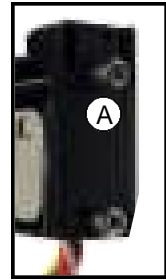

Figure 1
1. Remove 2 mounting screws from fader plate. (NOTE: The P&G fader is designed with floating mounting threads for precise mechanical centralizing of the fader. If you desire to keep your fader's current mounting position we suggest that you make 2 marks on both ends of the fader on the fader plate to indicate the P&G fader position.) See *Figure 1*.
2. Once fader is removed from unit, remove the two screws (A) from the end of the fader body where the wires exit the fader casing. Pull away the end block. Withdraw the dust cover (B). Taking great care, remove the slider assembly (C), ensuring that the wiper contacts (D) are not damaged as this will affect the operation of the fader. Clean the slider assembly by gently wiping the wiper contacts and slider bearings (E) using a tissue or cotton bud. If slider bearing are excessively worn, as indicated by excessive slider rocking then contact Stanton for replacement.
3. Remove the single upper screw on the opposite end block to remove the guide rail. Clean the guide rail (F) with a tissue or cloth, remov-